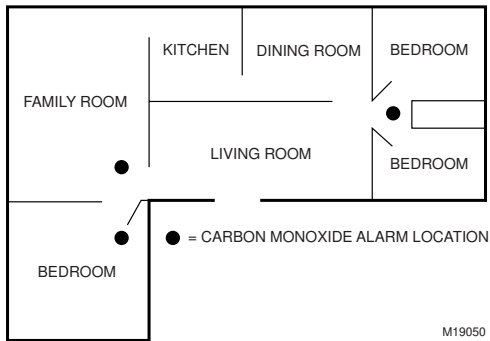

Fig. 1. Single-floor residence CO alarm locations.
- Place alarms on every level of a residence as shown in Fig. 1.
- See Fig. 1 for single-floor residence CO alarm locations.